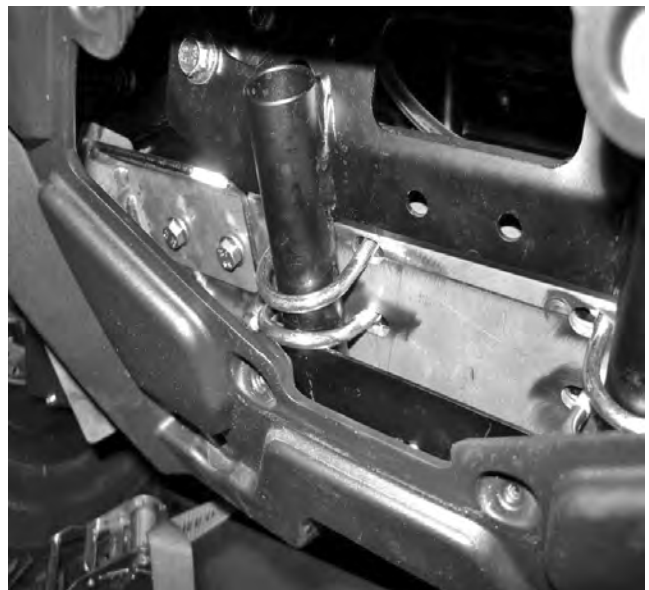

Figure 9
10. Place the four 5/16-18 u-bolts (B1) around the frame tubes and into the end support bracket (A2, A3) and the main support bracket (A1) secure using eight 5/16 flat washers (B2) and eight 5/16-18 locking hex nuts (B8). The main support plate (A1) will need to be lifted as high as possible to allow for the clearance of the lower u-bolt; see figure 9.